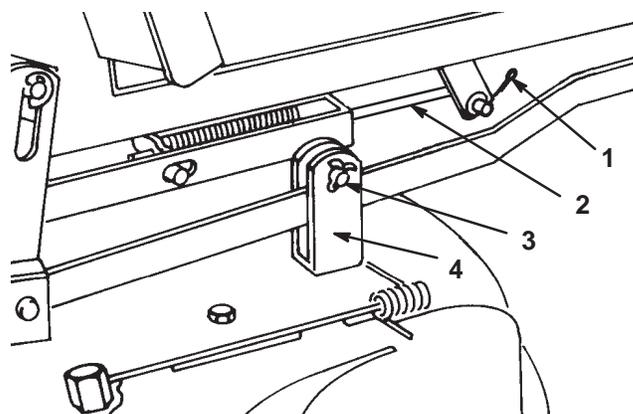

Figure 27
5. Remove cotter pin from adjustment rod and pull from pivot tube arm (Fig. 27).
2. Remove cotter pin from adjustment rod (Fig. 27).